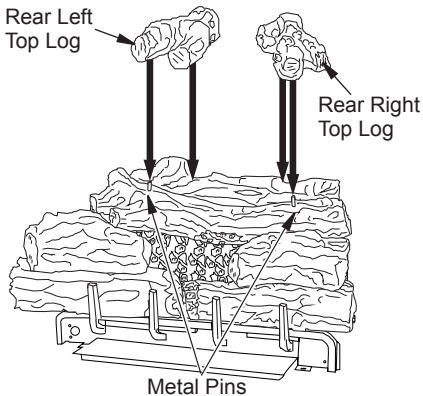

Figure 36 - Installing Rear Left Top Log and Rear Right Top Log
8. Place the rear left top log on top of the middle log and the rear log. Match the pin on the middle log with the round hole in the bottom of the rear left top log (see Figure 36). The rear log has a flat area for the back of the rear left top log to set in.
9. Place the rear right top log on top of the middle log and the rear log. Match the pin on the middle log with the round hole in the bottom of the rear right top log (see Figure 36). The rear log has a flat area for the back of the rear right top log to set in.